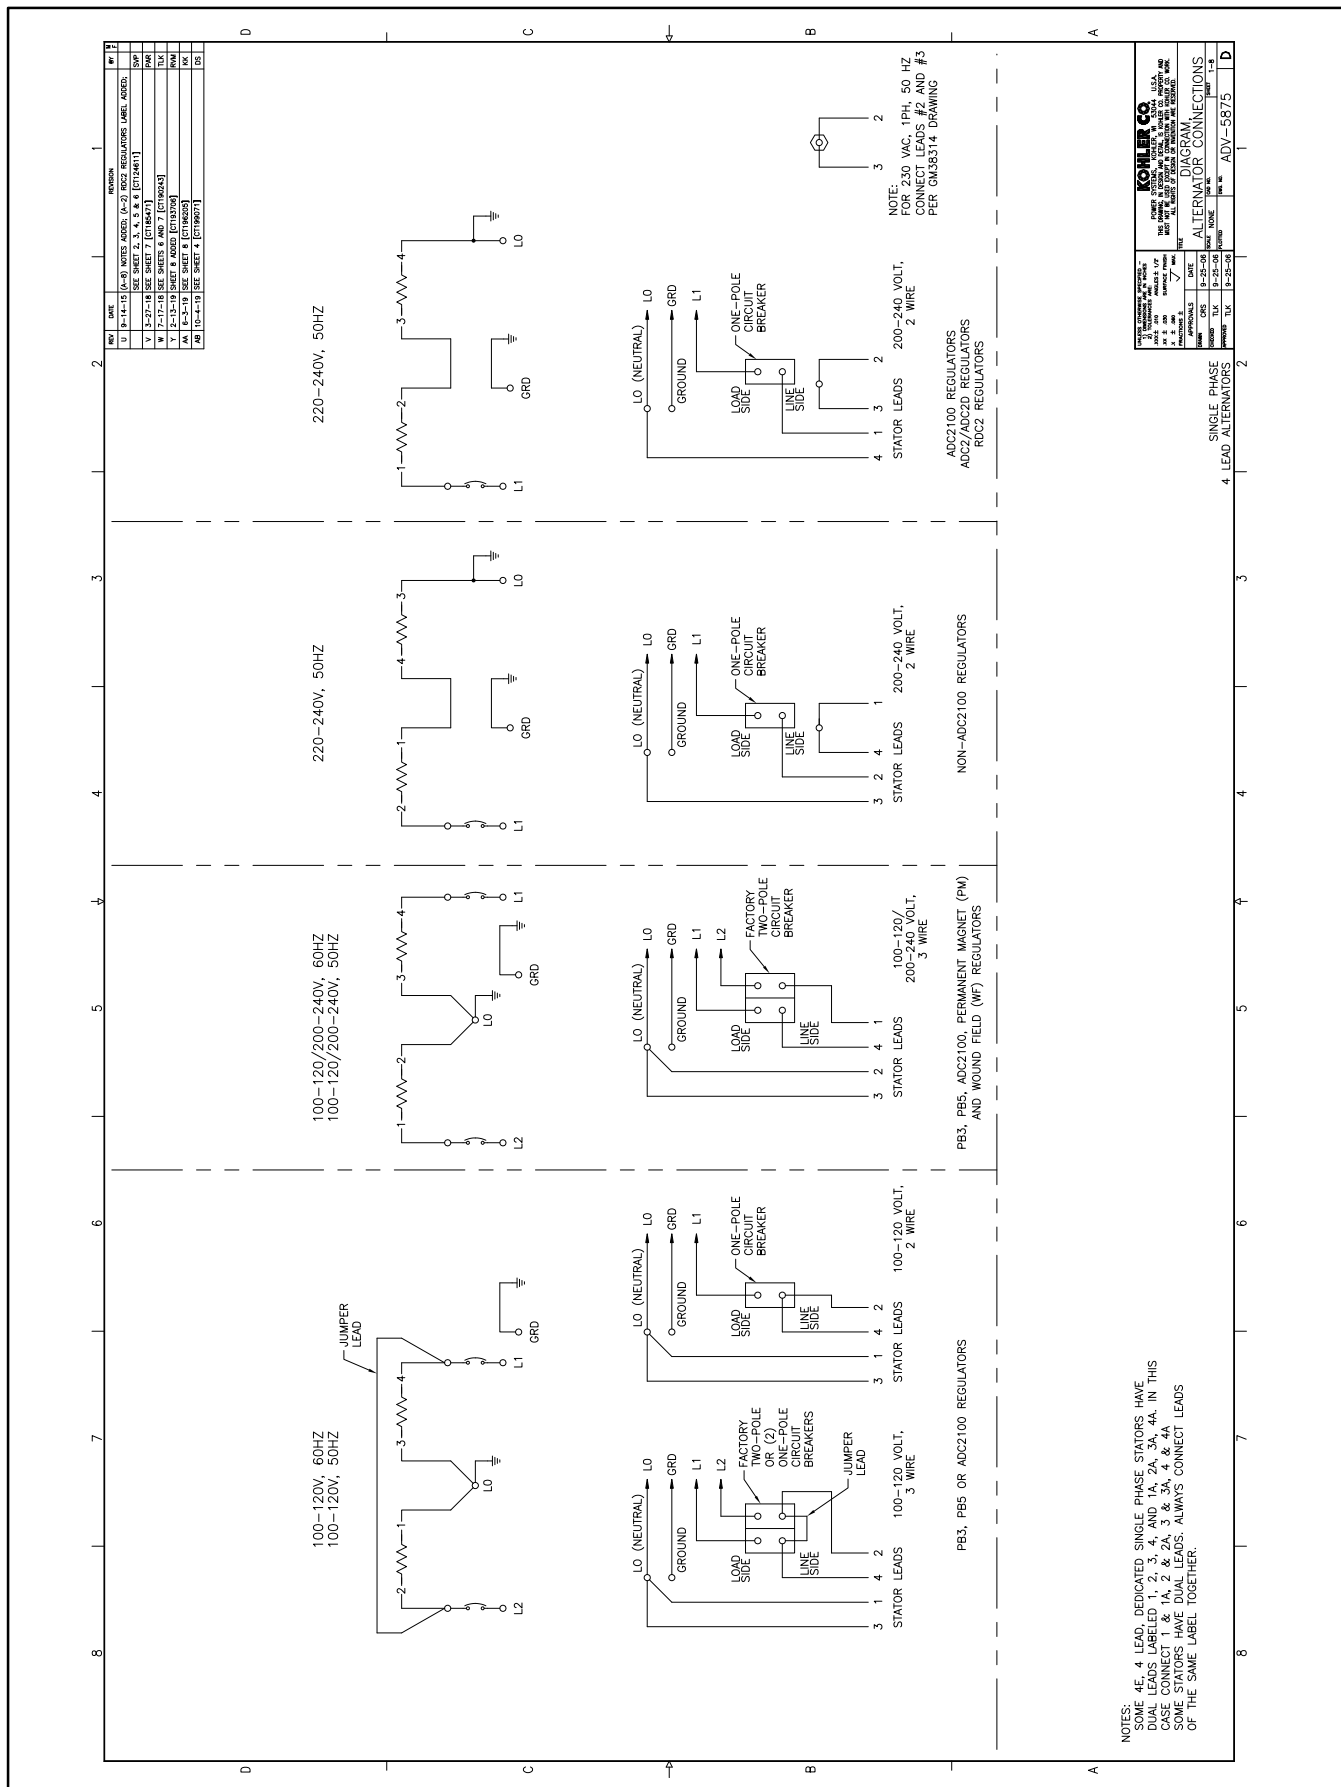
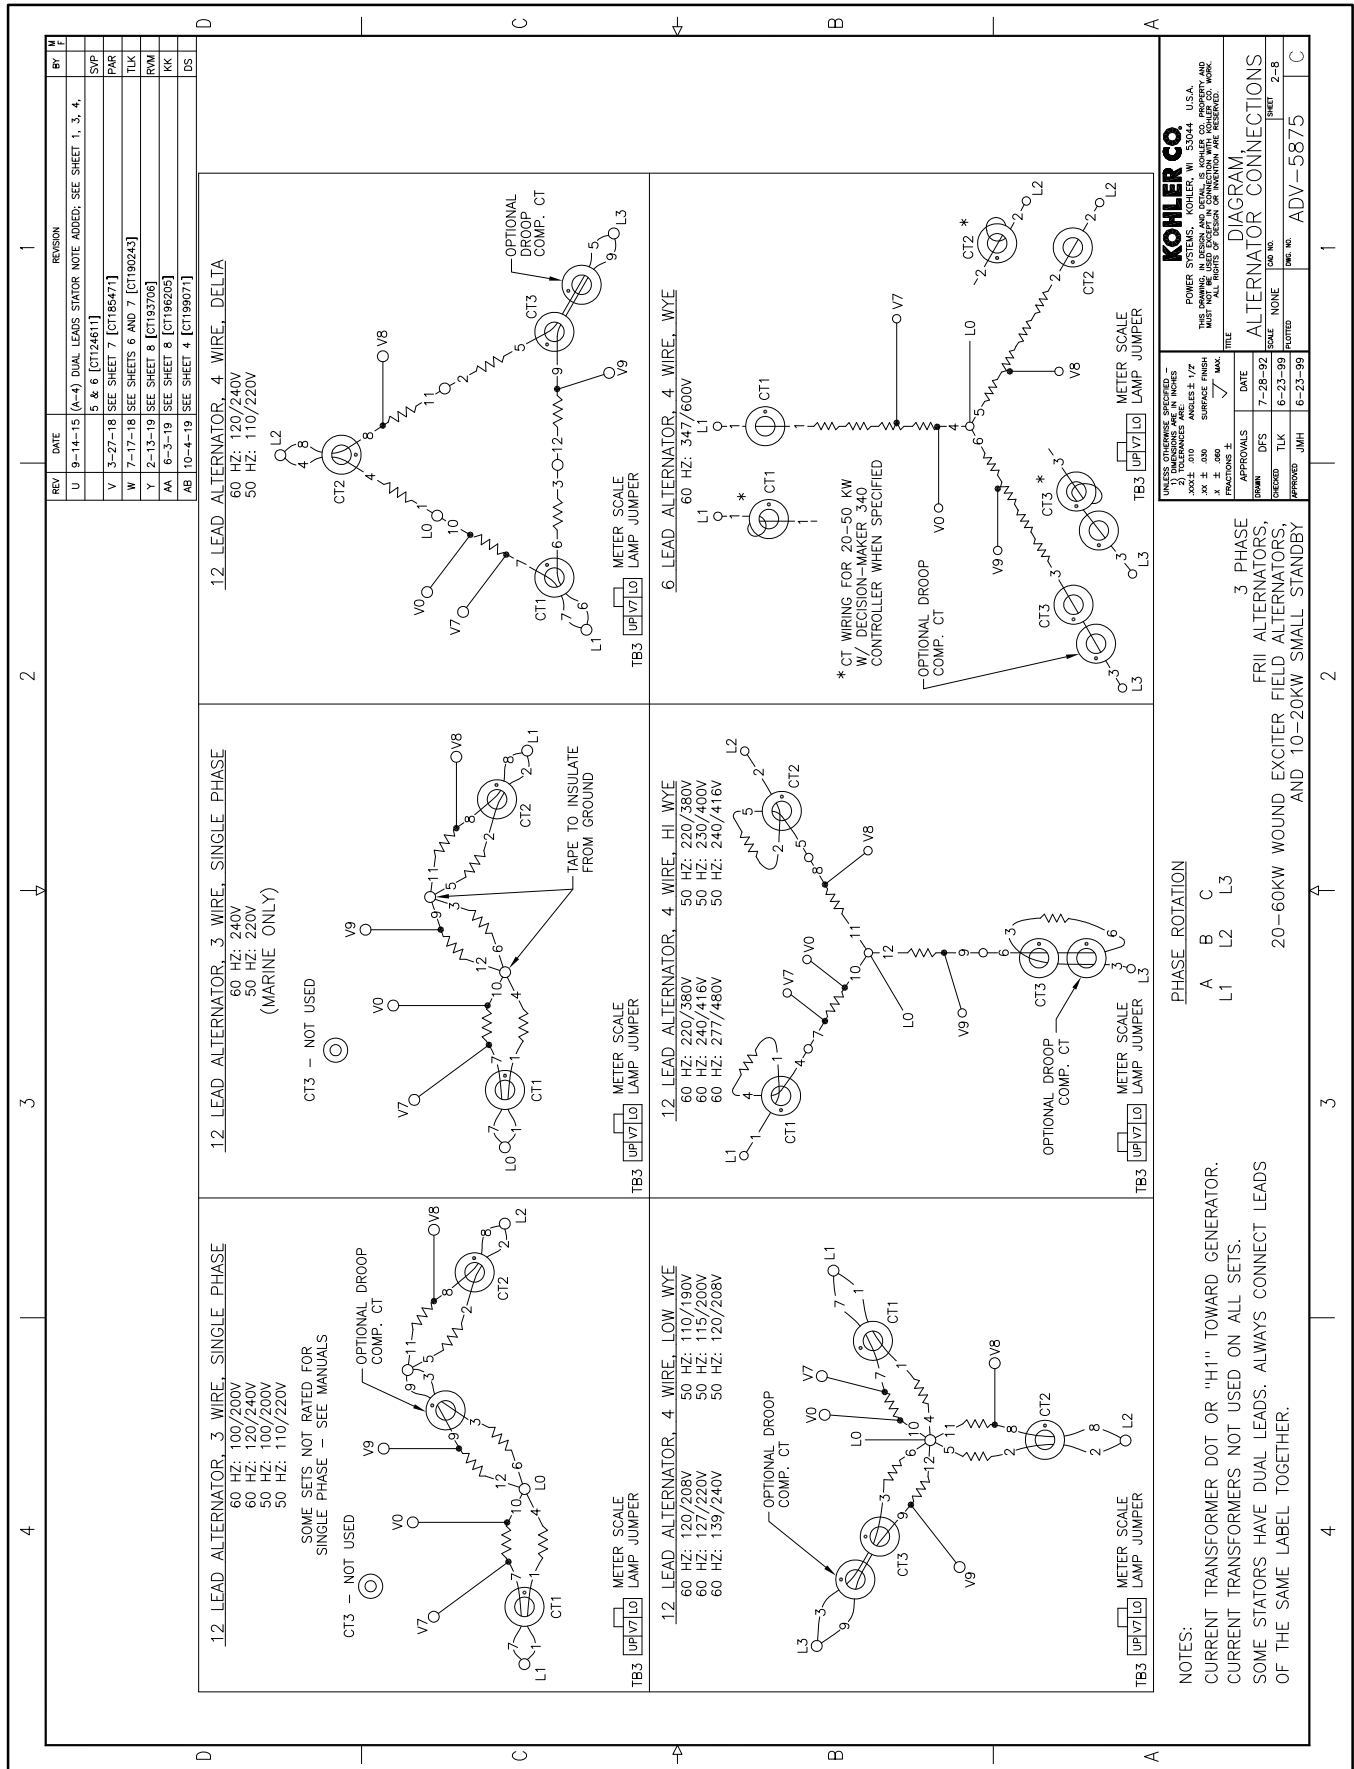
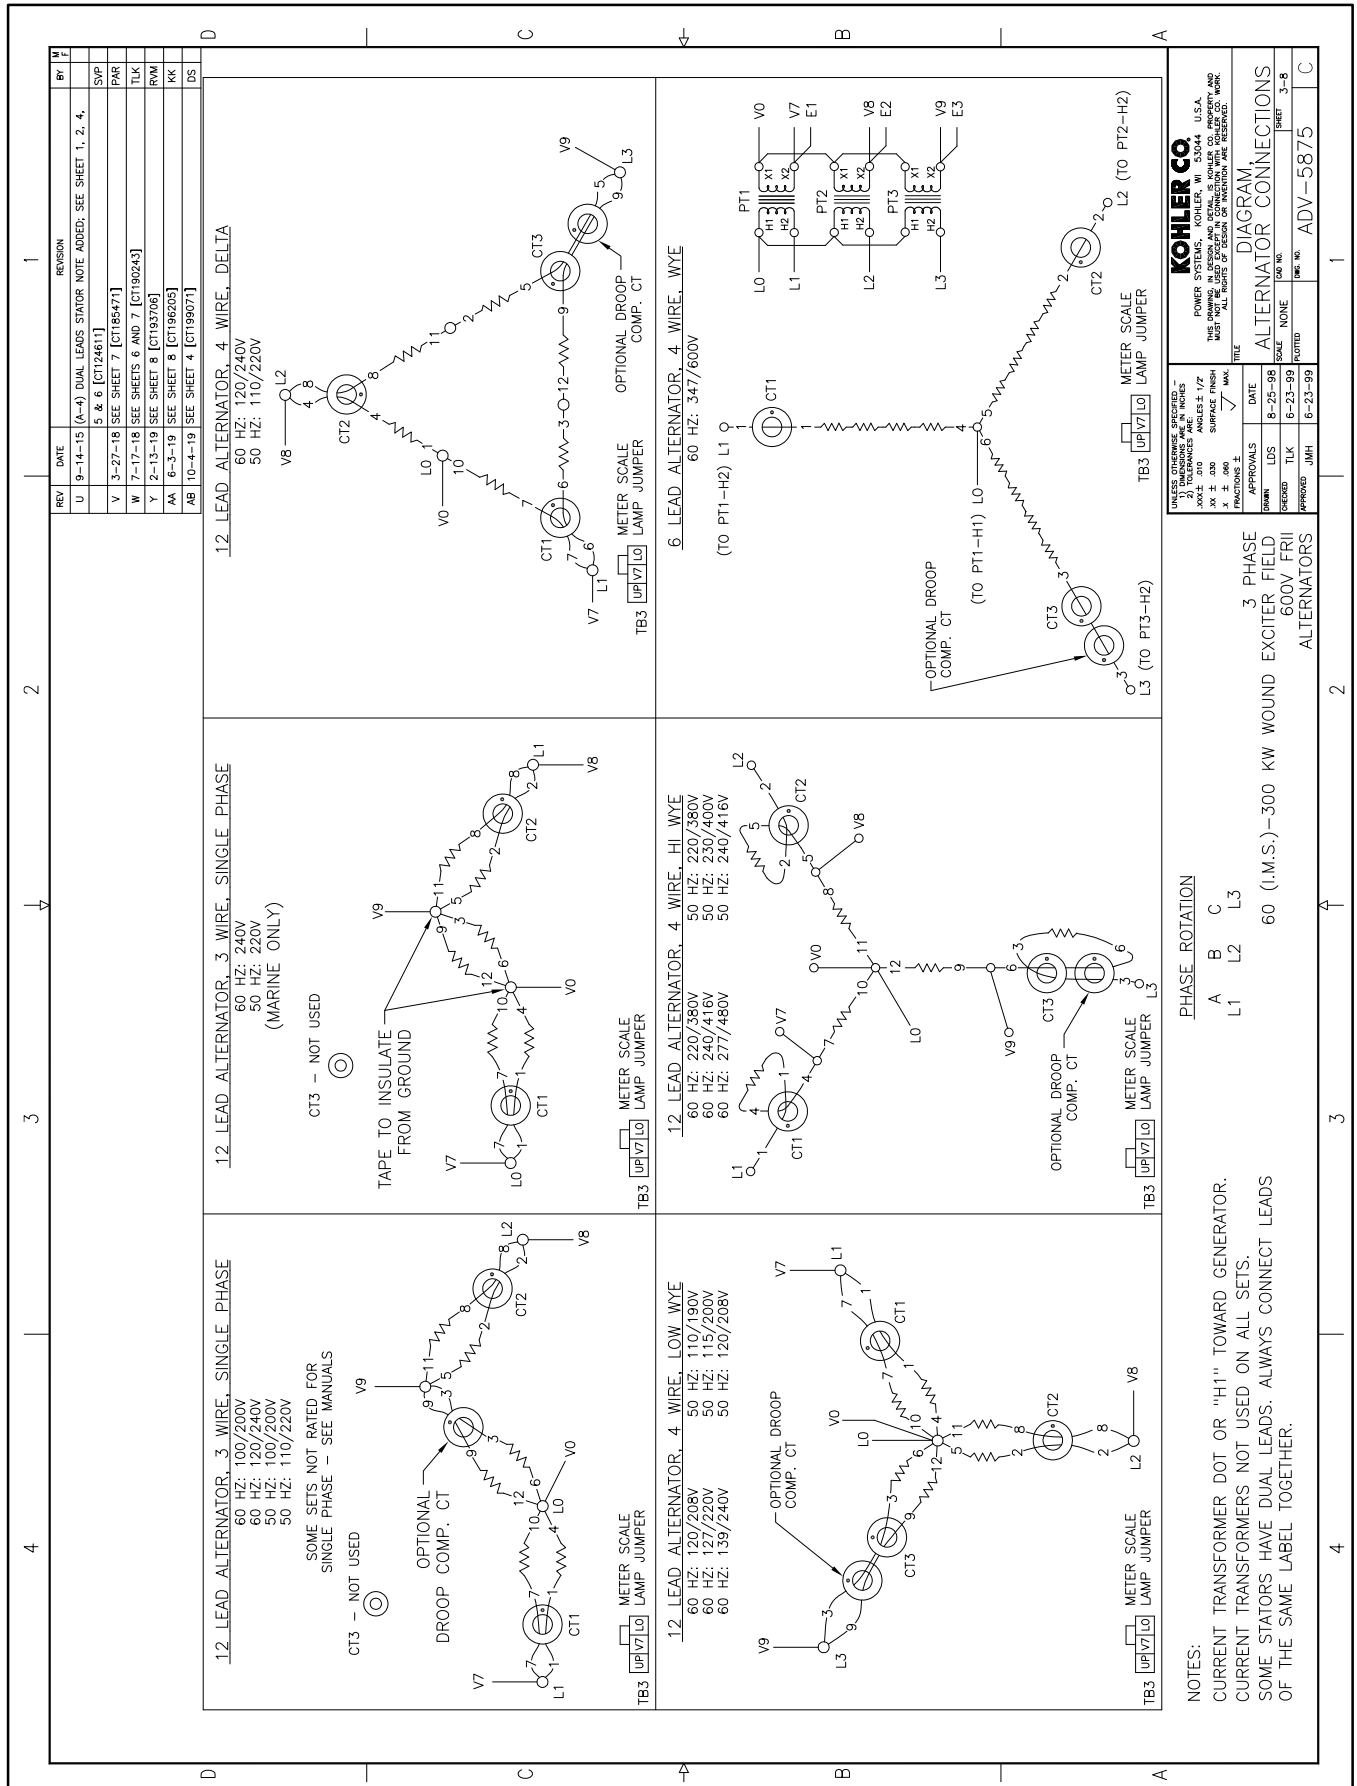

Figure 54 20- 150 kW Permanent Magnet Single-Phase Alternators, ADV-5875AB-1
Figure 55 20- 300 kW Permanent Magnet Alternators, ADV-5875AB-2
Figure 56 60 IMS- 300 kW Wound Exciter Field & 20- 300 kW, 600 V Perm. Magnet Alternators, ADV-5875AB-3
3. Use Figure 54, Figure 55, Figure 56, or Figure 57 to determine the generator set voltage configuration. Note the original voltage and reconnect as needed. Route leads through current transformers (CTs) and connect them according to the diagram for the desired phase and voltage.